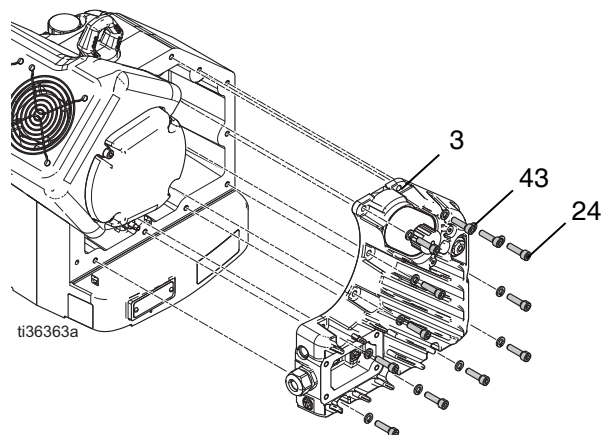

FIG. 16: Electronics Cover Removal
2. Install electronics cover (3), 12 washers (43), 12 screws (24) and torque to 15-20 ft-lb (20-27 N•m). See FIG. 16, page 16.
NOTE: Refer to FIG. 16, page 16.
3. Reinstall electronics cover (3) onto the center housing.
4. Install the 12 screws (24) and washers (43) using a 6 mm hex wrench. See FIG. 16, page 16.